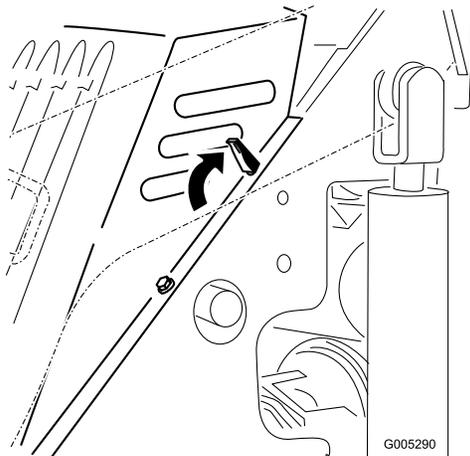

Figure 17
3. Release the four locking tabs (Figure 17, top, left tab illustrated).
1. Position the hood over the traction unit frame with the posts on the hood fitting into the holes in the frame (Figure 17).
2. Secure the hood by pushing the locking taps forward and down (Figure 17)